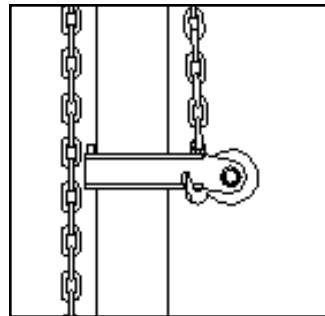

Figure 26
11. When tower is no longer needed, close tower valve, disengage tower chain hook, and store collar using one of the three methods shown. (See Figures 26, 27 and 28.)
1. When collar and chain are stored as shown in Figures 26 and 27, the collar locking knob must be tightened before removing tower chain from vehicle.